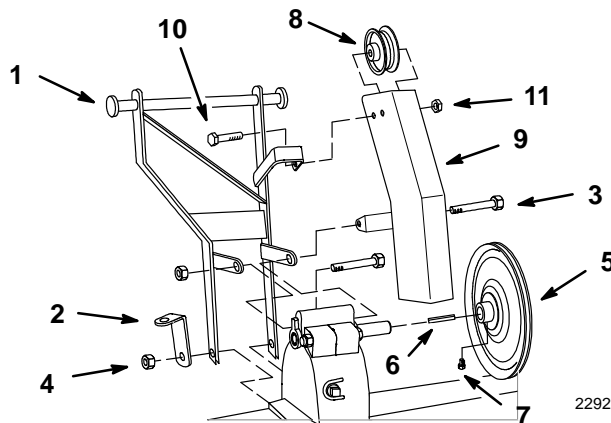

Figure 1
1. Tip tiller onto back and support in an upright position. Remove $3/8 \times 5-1/2$ " and $3/8 \times 4-1/2$ " bolts. (Fig. 1). Discard extra nuts used as spacers for shipping.
2. Fasten hitch and spring bracket with bolts and nuts as shown in (Fig. 1). Tighten bolts securely.
3. Install pulley with hub $1/4$ " in from the end of drive shaft (Fig. 1). Secure with square key and (2) $5/16$ " square head set screws.
4. Assemble idler and belt guide into lower hole of belt guard and install onto hitch through upper hole with $3/8 \times 2-1/4$ " bolt and $3/8$ " lock nut (Fig. 1).